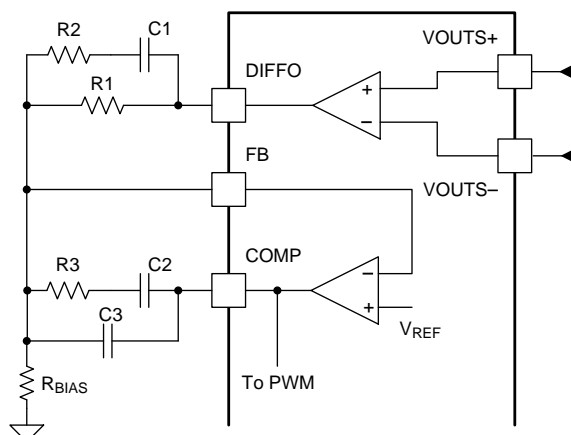

Figure 33. Output Voltage Setting
The TPS544x25 devices implement a differential remote sense amplifier to provide excellent load regulation by cancelling IR-drop in high current applications. The VOUTS+ and VOUTS– pins should be kelvin-connected to the output capacitor bank directly at the load, and routed back to the device as a tightly coupled differential pair. Ensure that these traces are isolated from fast switching signals and high current paths on the final PCB layout, as these can add differential-mode noise. Optionally, use a small coupling capacitor (1-nF typical) between the VOUTS+ and VOUTS– pins to improve noise immunity. The output of the differential remote sense amplifier (DIFFO) is used for output voltage setting and error amplifier frequency compensation local to the device as shown in Figure 33.
A voltage divider from the DIFFO pin to the FB pin is typically required to set the nominal output voltage like the one formed by R1 and R_{BIAS} resistors shown in Figure 33. To allow PMBus devices to map between the commanded voltage and the voltage at the control circuit input (V_{OUT} divided down to match a reference voltage), the device uses the VOUT_SCALE_LOOP command.
$$\bullet \quad V_{OUT_SCALE_LOOP} = R_{BIAS} / (R_{BIAS} + R1) \text{ (as shown in Figure 33)} \quad (1)$$